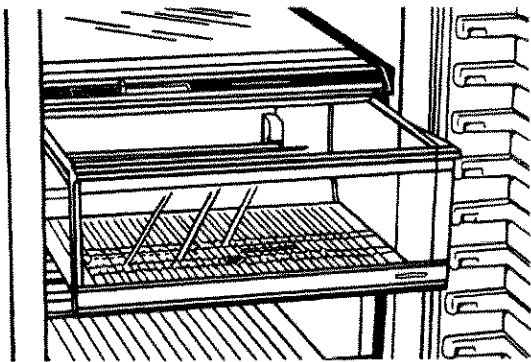

Figure 22
- Crisper drawers glide out full length, even when door is open at 90° angle. To completely remove crisper drawers when door is opened 90°, remove two lower door shelves. See Figure 22.